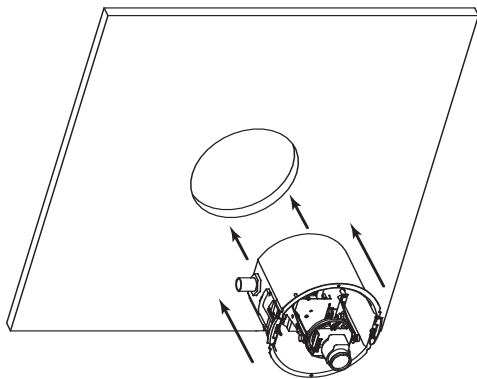

Figure 1
4. Install box into pre-cut tile. Position the round section of the box in the direction that the camera will be aimed (see **Figure 1**).